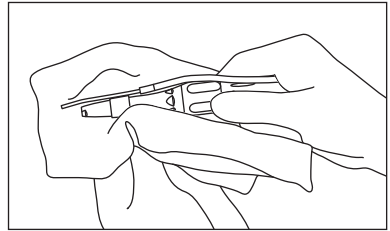

Fig. 8
- 4) Wipe the exterior of the handpiece clean using a cloth moistened with disinfectant or ethanol with a concentration of 60 - 90%. (Fig. 8)